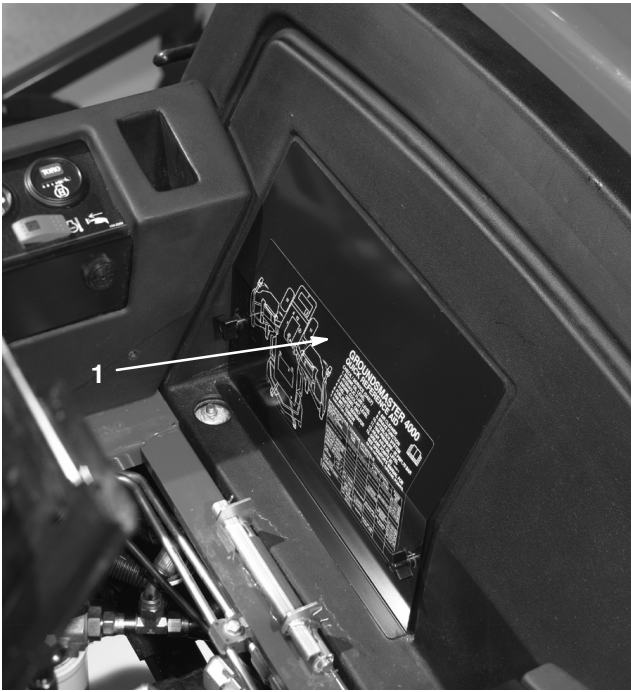

Figure 71
2. Remove the battery cover (Fig. 71).